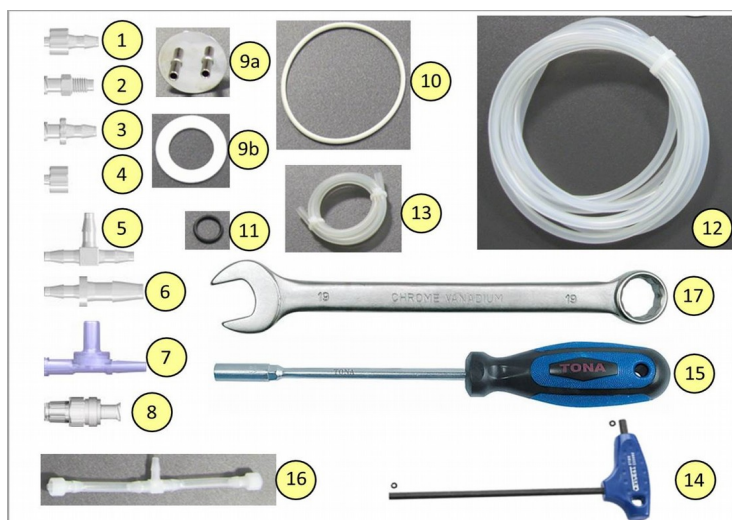

Fig. 5: Components of the spare part kit. Numbers correspond to component numbers in Table 3.
5. **Spare Part Kit*** – for the complete list of Spare Part Kit see Table 3 on page 13 and corresponding Fig. 5
Table 3: List of spare part kit components shown in Fig. 5